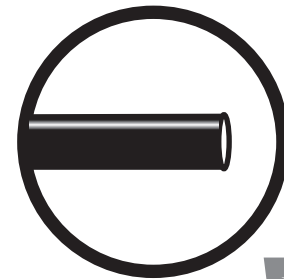

fig. 27
- a. Check the air line connection by deflating the spring and removing the line by pulling the collar against the fitting and pulling firmly on the air line. Trim 1" off the end of the air line. Be sure the cut is clean and square (see fig. 27). Reinsert the air line into the push-to-connect fitting.
2. If the preceding steps have not resolved the problem, call Air Lift customer service at (800) 248-0892.